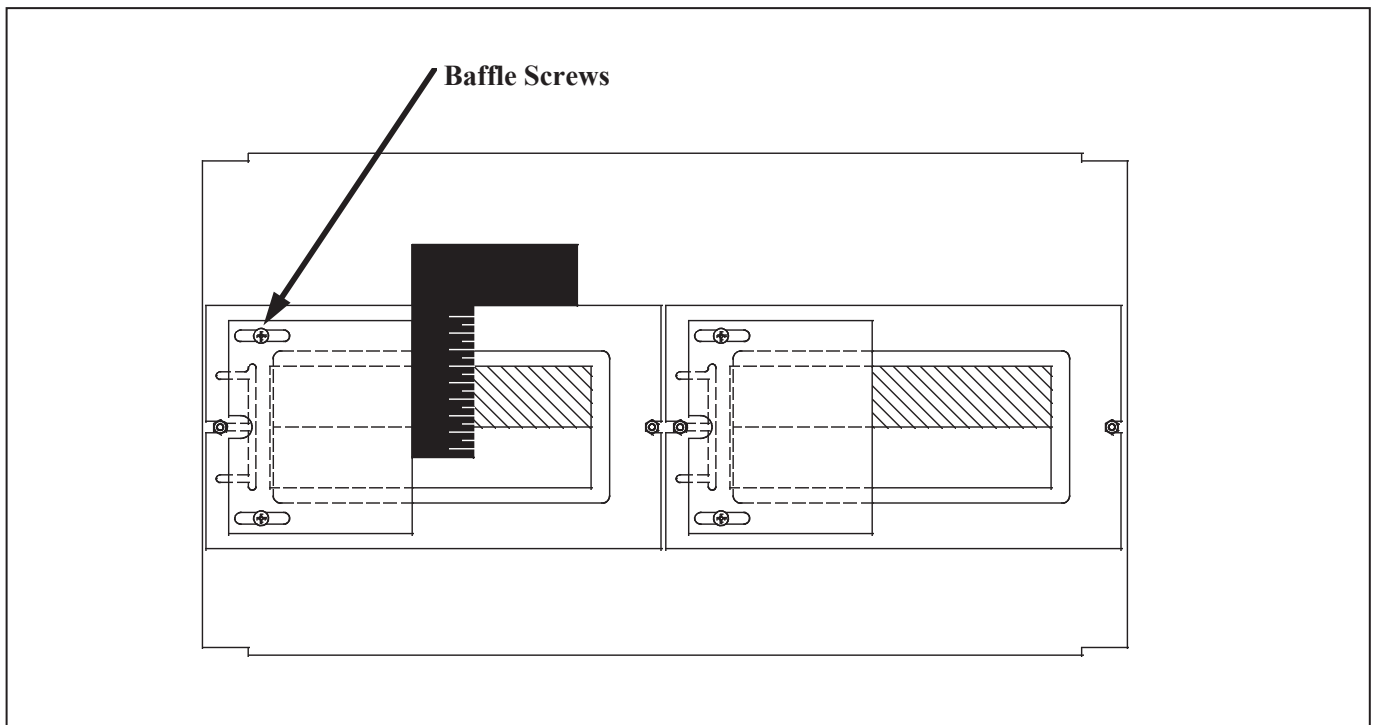

Figure 5. Squaring Baffle Plate with Top Edge of Mounting Plate
9. Position someone equipped with a walkie-talkie at the edge of the obstacle or as far out from the edge the beam where cutoff is desired. Move the baffle along the aperture of the baffle mounting plate until the light beam cut-off is seen by the individual who is standing in front of the obstacle. Use a combination square to make sure the machined edge on the baffle is perpendicular to the top edge of the Baffle Mounting Plate. Tighten the two screws on the baffle. See Figure 5.